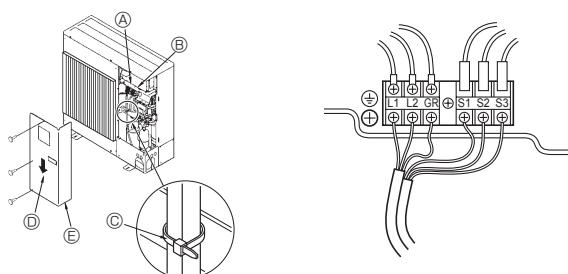

**Fig. 6-1**
### 6.1. Outdoor unit (Fig. 6-1, Fig. 6-2)
- ① Remove the service panel.
- ② Wire the cables referring to the Fig. 6-1 and the Fig. 6-2.